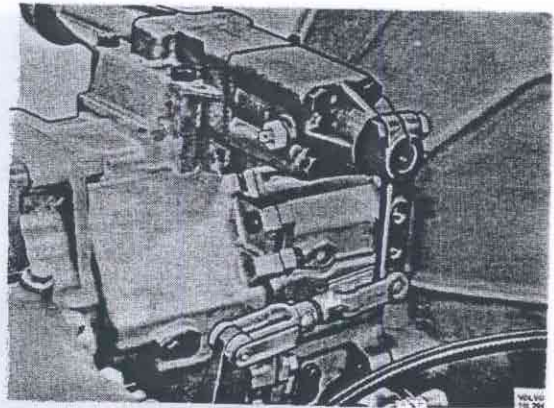

Fig. 43-128. Lever with link
37. Place the lever on the gearbox selector shaft housing and the auxiliary gearbox in neutral. The hole in the gearbox lever and link should coincide so that the lock pin fits easily, compare Fig. 43-128. If necessary adjust the link fork.